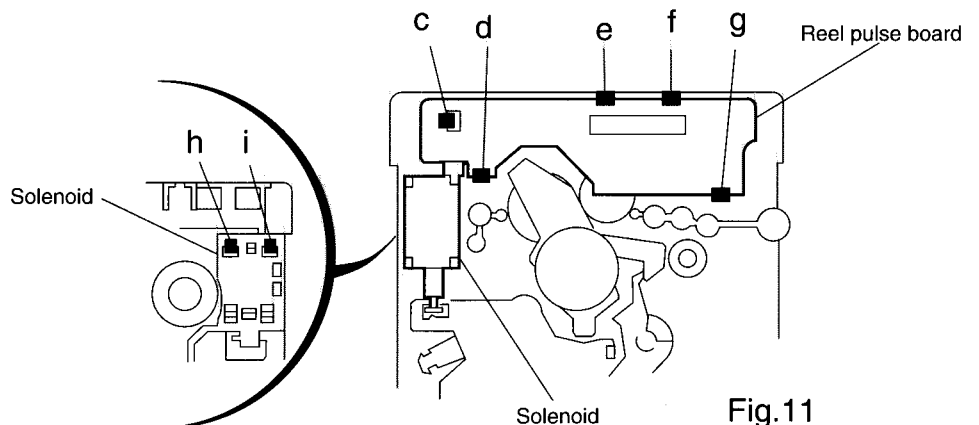

Fig.11
■ **Removing the reel pulse P.C.board and solenoid (See Fig. 11)**